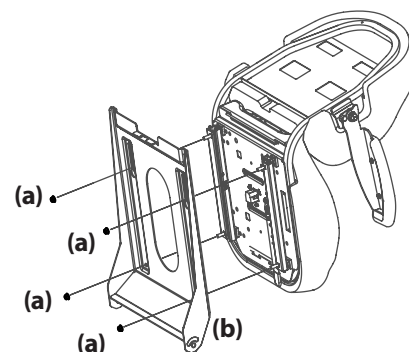

Figure 7
2. Install the seat onto the seat pan (b) using flange lock nuts (a). See Figure 7.